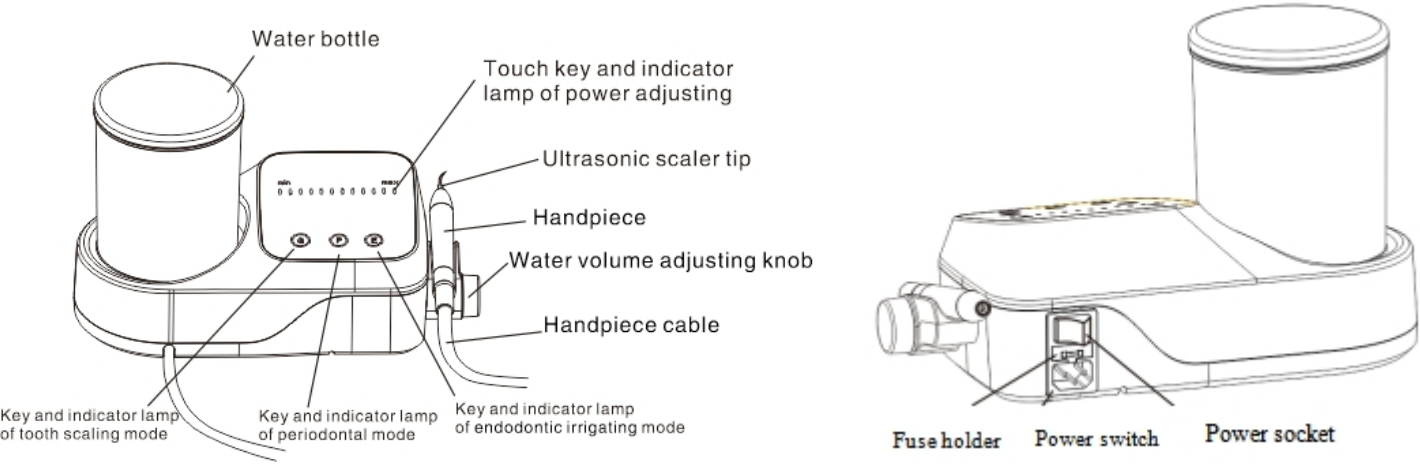

Figure 1 Front Schematic Diagram Figure 2 Rear Schematic Diagram
- (1) After unboxing, check all accessories of the product according to the Packing List. Take out the device from the box, then place it on a stable and flat plane.
- (2) Turn the water volume adjusting knob to its maximum as shown in the Figure 1 (see section 3.5.1 [Note 1]).